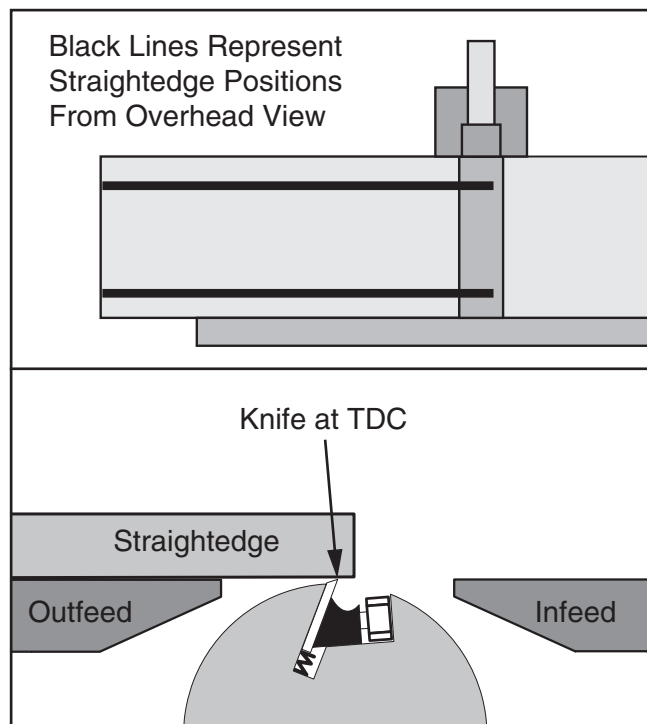

Figure 60. Using a straightedge to inspect knives.
3. Using a straightedge on outfeed table, check height of each knife at positions shown in **Figure 60** below.
Straightedge Method: A high quality straightedge is held flat against the outfeed table and the knife heights are set to the bottom of the straightedge, as shown in **Figure 60**. Because the knife projection height from the cutterhead is dependent on the outfeed table height, the outfeed table must be set as described in **Setting Outfeed Table Height** on **Page 23** for this method to work correctly.